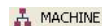

Figure 8-3: Hierarchical Block Icon
1. Open the Technology Viewer by using the **View Technology Schematic** process for the latest generated netlist in the **Start with the Explorer Wizard** mode. Select the hierarchical block icon (see Figure 8-3) and create the schematic.
2. Open the previously stored `default_run.ngc` netlist by selecting **File > Open**. Select the **Start with the Explorer Wizard** mode. Project Navigator loads the netlist and starts the Schematic Viewer Wizard. Using the wizard, select the **MACHINE** hierarchical block icon (Figure 8-3) and create the schematic.